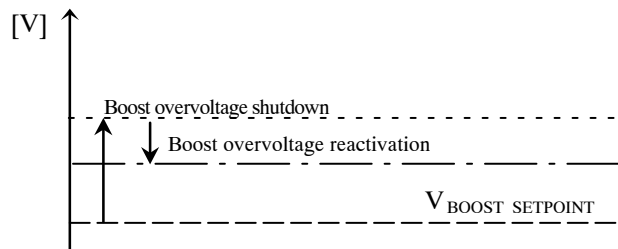

Figure 14. Booster Voltage Protection Levels with Respect to the Setpoint
- Whenever the boost overvoltage detection triggers in the control loop. The booster is automatically activated when the voltage falls below the hysteresis (Figure 14).